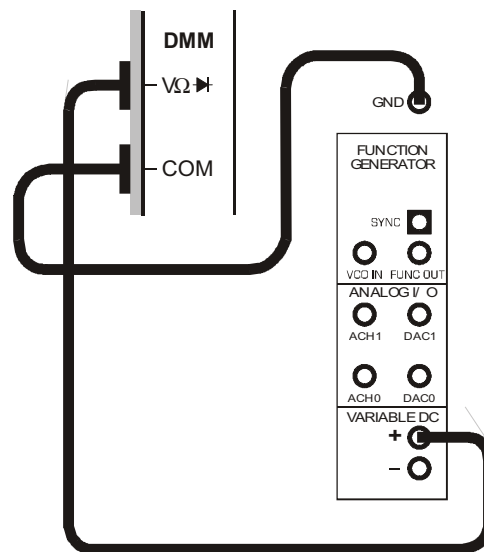

Figure 4
8. Connect the set-up shown in Figure 4 below.